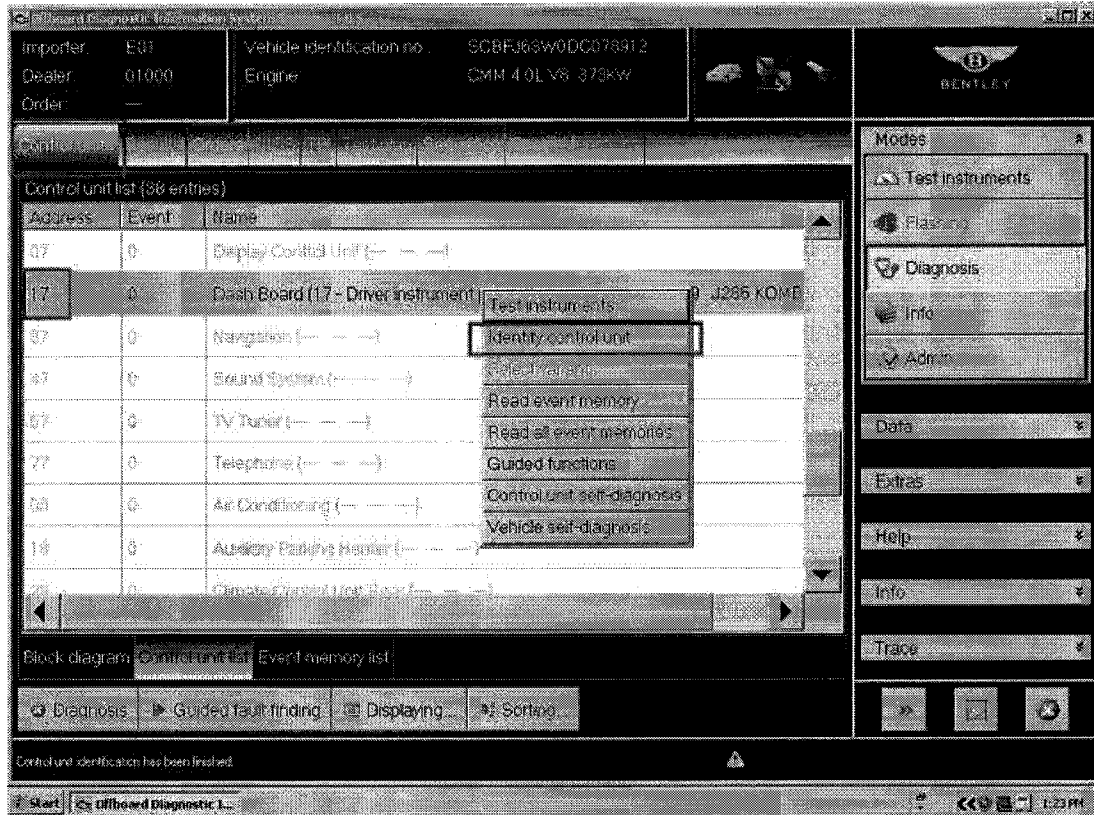

Figure 2
8. Within Control units – Select 17 (single touch) – Reveal drop down menu (extended touch and release), Select *Identify control unit* (see Figure 2)